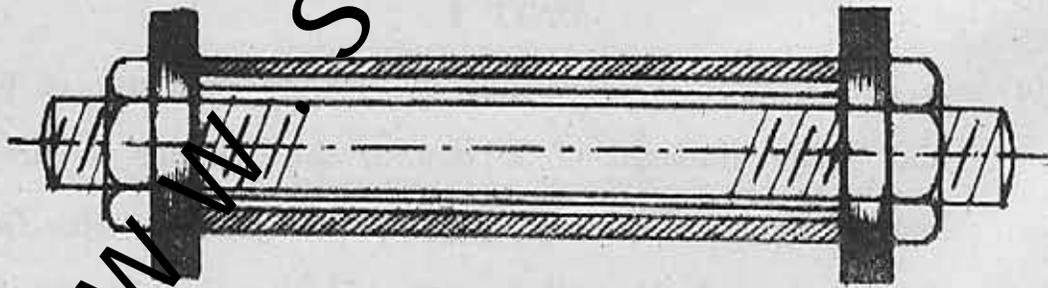

Fig. 1
- (b) A steel rod 20 mm diameter passes centrally through a copper tube of 25 mm internal diameter and 35 mm external diameter. Copper tube is 800 mm long and is closed by rigid washers of negligible thickness, which are fastened by nut threaded on the rod as shown in Fig. 1. The nuts are tightened till the load on the assembly is 20 kN. Calculate the initial stresses in the copper tube and steel rod. Also calculate increase in the stresses, when one nut is tightened by one-quarter of a turn relative to the other. Take pitch of the thread as 1.6 mm. ($E_{\text{steel}} = 200$ GPa and $E_{\text{copper}} = 100$ GPa) [10]